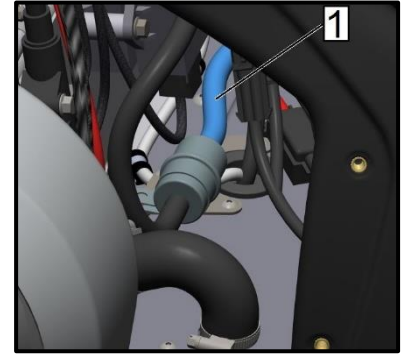

Fig. 18
10. Remove the fuel hose (Pos.1, Fig. 18) connecting the fuel module and filter from the filter connector. Hold the hose (Fig. 1, Fig. 18) with one hand and move the fuel filter outward with the other hand.